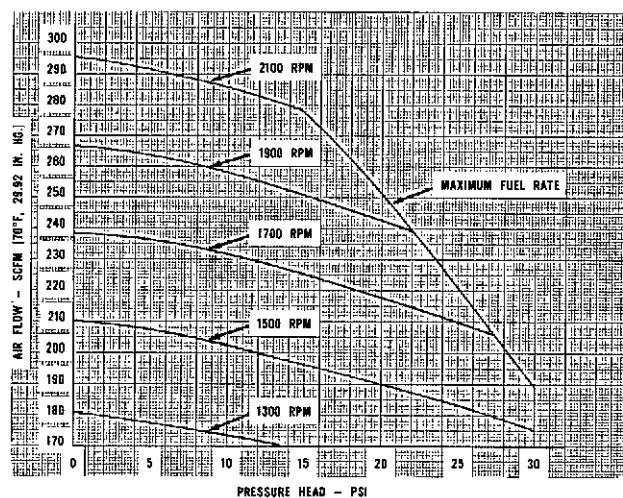

Fig. 2-12, N1183B. Air flow - NH-250 engine
2. Once pressure is determined, refer to Fig. 2-12 (NH-250) for maximum engine speed required. For example, the NH-250, a maximum pumping speed of 2050 RPM can be used to obtain about 268 CFM. If less flow is desired than maximum obtainable at any particular pressure as determined by maximum fuel rate, engine speed may be adjusted to obtain this flow. Greater pressures are allowed with reduced engine speeds up to a maximum of 30 psi [2.1090 kg/sq cm].